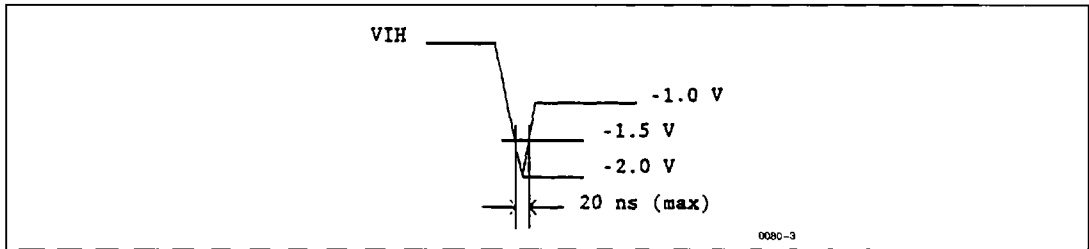

Figure 1. Undershoot of Input Voltage
2. The device will withstand undershoots to the -2V level with a maximum pulse width of 20 ns at the -1.5V level. (See Figure 1.)